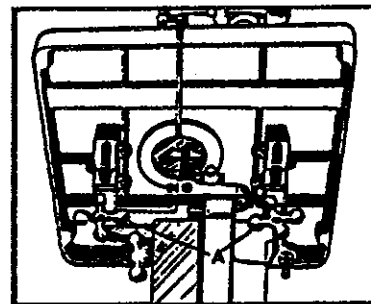

Fig. 15
The table on your band saw can be tilted 45 degrees to the right and 10 degrees to the left. To tilt the table, loosen the two star wheels(A) Fig. 15. Tilt the table to the desired angle and tighten the two star wheels (A).
Tighten the Six Hex. Hd. Cap screw(C) Fig. 15.